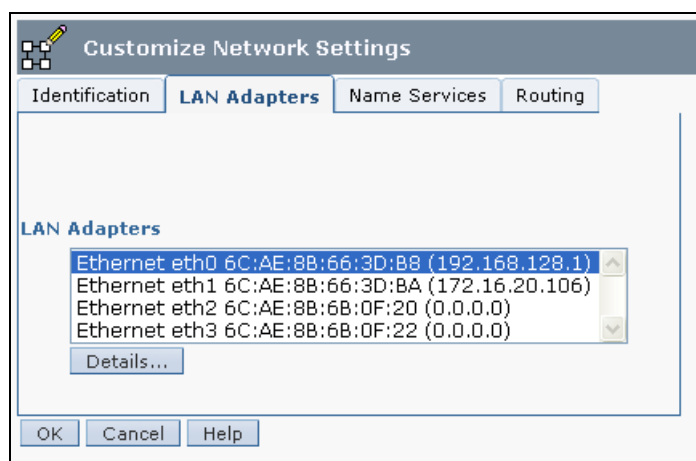

Figure 2-8 Customize Network Setting: LAN Adapters tab
2. Select **Change Network Settings**, and in the Customize Network Settings window, select the LAN Adapters tab, as shown in Figure 2-8.